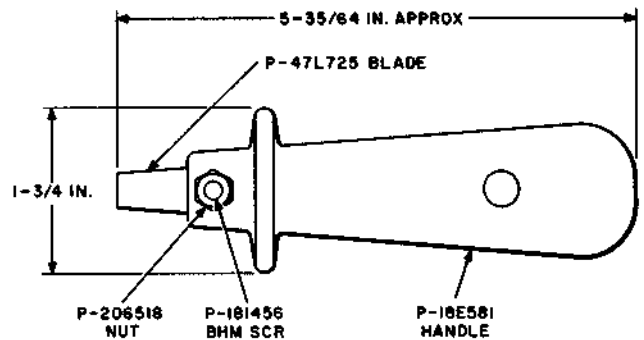

Fig. 2—714E2 Wire Inserter Tool
2.02 714E2: The 714E2 wire inserter tool (Fig. 2) is used for making cross-connections on the 66G- and 66H-type connecting blocks. The 714E2 tool replaces the 714E tool.